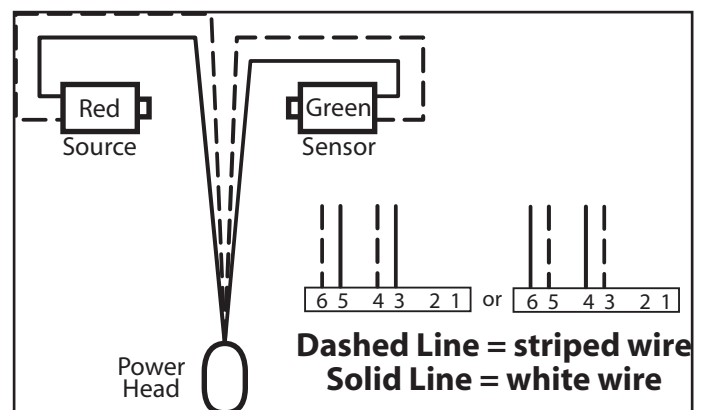

FIG. 4-5a Source and sensor wiring methods
- Route wire from Safe-T-Beam® sensors to power head using method shown in (Fig. 4-5a).